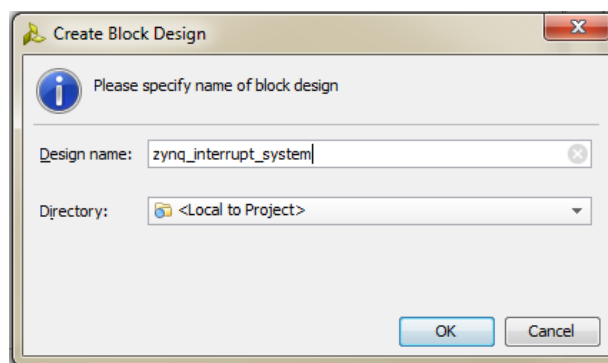

Figure 2.5: Create Block Design dialogue
- (b) Enter **zynq_interrupt_system** in the Design name box, as in Figure 2.5: